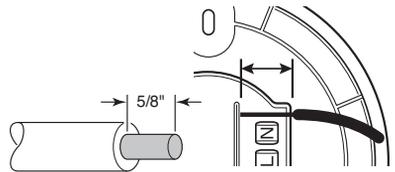

Figure 1
**Note:** If necessary, strip 5/8 in. of insulation from junction box wires. Use the wire length measuring guide on the back of the mounting plate to ensure the correct wire length (see Figure 1).